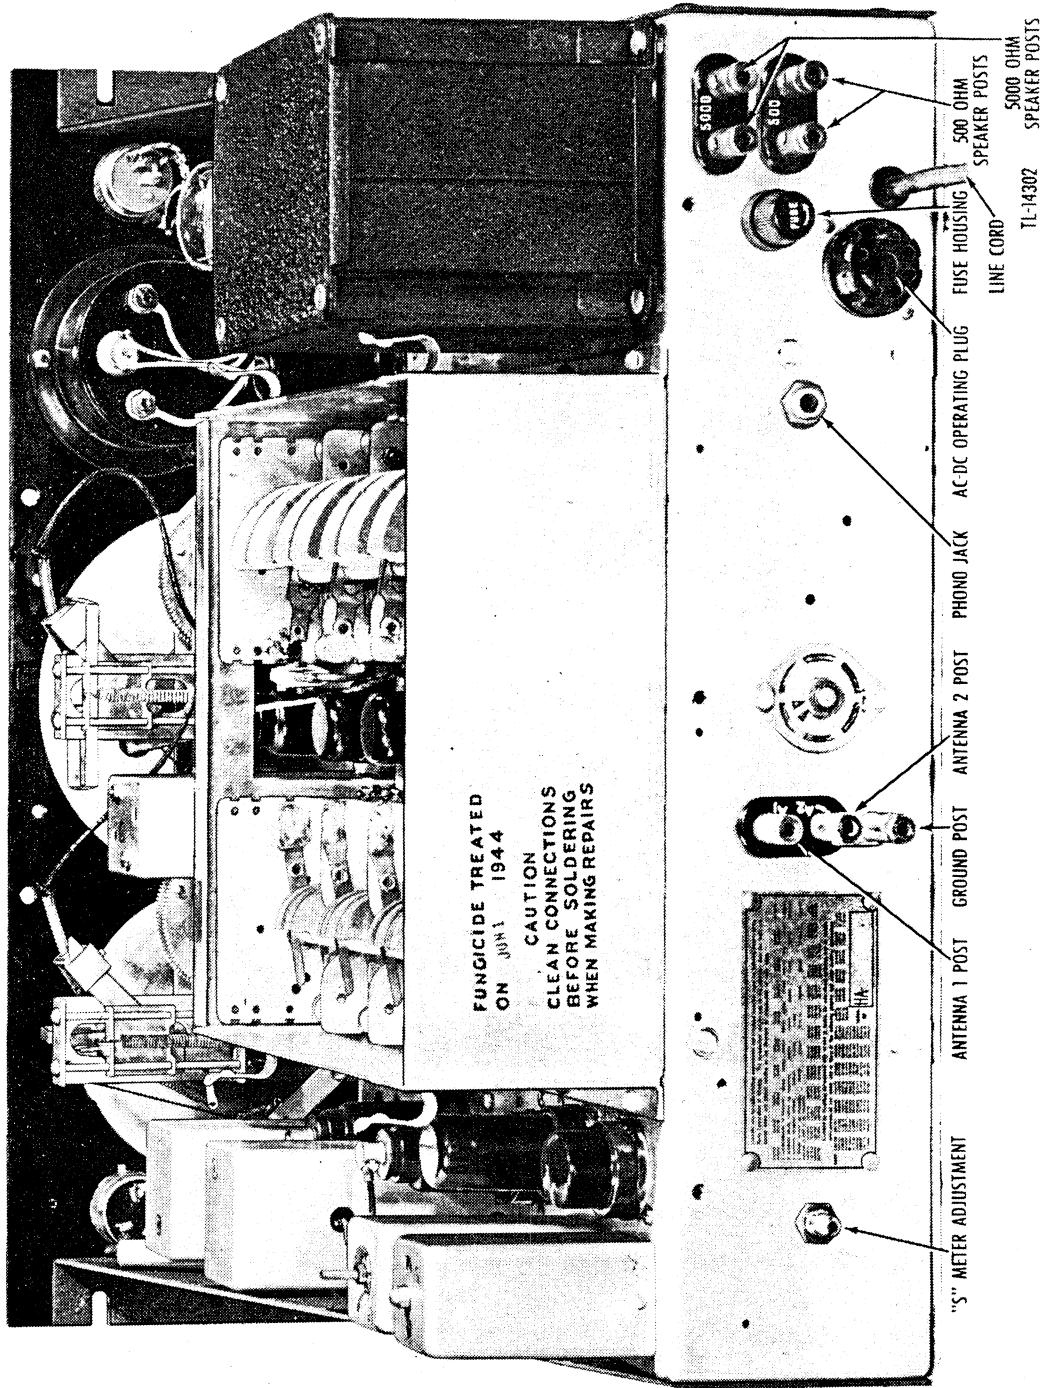

Figure 2. Radio Receiver AN/GRR-2, rear chassis apron.
**a. A-c Operation.** The octal shorting plug (a-c operating plug) furnished with the receiver must be inserted in the octal socket on the rear apron (fig. 2) of the receiver and the line cord connected to the line.
**c. A-c Line Fuse.** Check the fuse in the a-c line circuit. Remove the holder from the fuse housing on the rear apron of the chassis (fig. 2). A spare fuse is mounted on the top of the chassis near the rectifier tube.